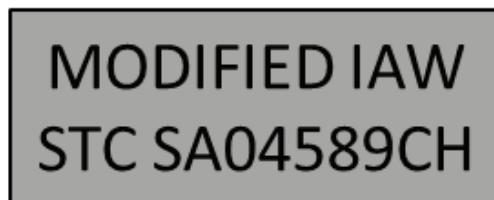
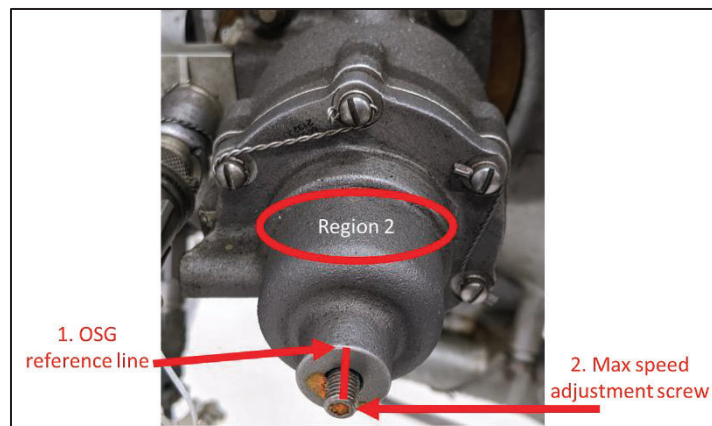

Figure 4: Required CSU & OSG placard (Hartzell P/N 109331)
Figure 6: OSG detail
- (18) Reinstall engine access panels removed in Step (7), and perform Steps (1) through (3) again.
- (19) Advance the power lever until propeller RPM stabilizes. Make a note of the RPM. Return the power lever to idle.
- (20) If required, adjust the propeller RPM by loosening the jam nut, and turning the max  $N_P$  stop screw until  $2,000 \pm 10$  RPM is achieved. A ½ turn on the max speed fine adjustment bolt results in approximately 10 RPM change. Turn the bolt clockwise to decrease RPM or counterclockwise to increase RPM.
- (21) Once the propeller RPM is within  $2,000 \pm 10$  RPM, torque the jam nut to 33-38 IN-LB, and re-safety the max  $N_P$  stop screw according to the Airplane Maintenance Manual. Additional engine controls rigging procedures may be found in Chapter 76 of the Airplane Maintenance Manual.
- (22) Ensure jam nuts and loosened retaining screws have been torqued to 33-38 IN-LB. Re-safety the skirt retaining screw, max NP stop screw, and feather stop screw according to the Kodiak 100 Airplane Maintenance Manual.
- (23) Clean the area highlighted as Region 1 (red oval area, see Figure 1), and firmly apply the provided placard (Figure 4).
- (1) Start the engine according to the Normal Procedures section of the current Airplane Flight Manual.
- (2) Taxi the aircraft to a location suitable for a high-power engine run.
- (3) Set the parking brake and firmly depress the brake pedals.
- (4) Perform a Propeller Overspeed Governor Check according to the Normal Procedures section of the current Airplane Flight Manual. Note the stabilized propeller RPM with the Overspeed Governor Test Button depressed.
- (5) Gain access to the main propeller governor (CSU) and propeller overspeed governor (OSG).
- (6) With a permanent marker, mark a reference line (Figure 6, item 1) on the top of the OSG next to the maximum speed adjustment screw (Figure 6, item 2).
- (7) Turn the maximum speed adjustment screw counterclockwise one turn.
- (8) Reinstall engine access panels removed in Step (5), and perform Steps (1) through (4) again.
- (9) If required, adjust the maximum speed adjustment screw until the Propeller Overspeed Governor Check results in a stabilized propeller RPM of  $1,880 \pm 50$  RPM. Turn the screw clockwise to increase the overspeed RPM, or counterclockwise to reduce the overspeed RPM.
- (10) Clean the area highlighted as Region 2 (red oval area, see Figure 6), and firmly apply the provided placard (Figure 4).